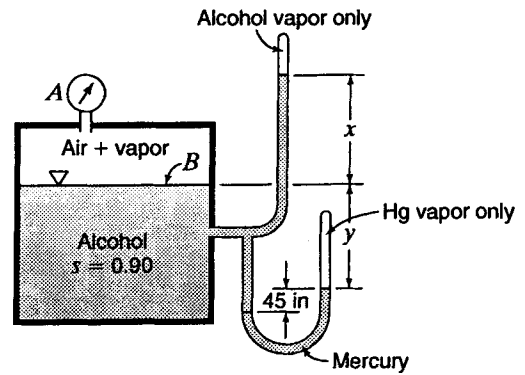

Figure X3.5.8
- 3.5.8 In Fig. X3.5.8, atmospheric pressure is 14.80 psia; the gage reading at A is 3.7 psi; the vapor pressure of the alcohol is 1.4 psia. Compute x and y .